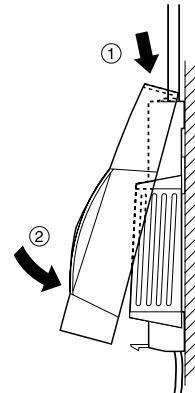

Fig. 4:
- ▶ Place the housing cover in position above and snap it down (see Fig. 4).